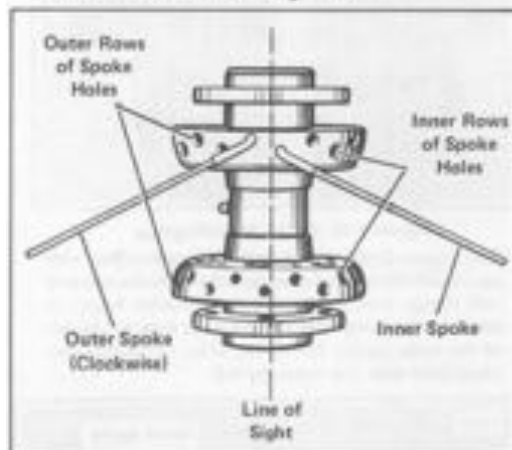
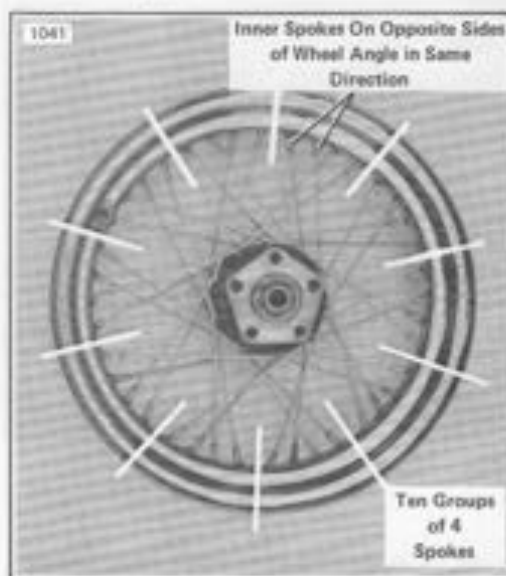

Figure 2-12. Early Style Hub
Figure 2-12B. Early Style Laced Wheel
**Early Style Hub** - See Figure 2-12. Pick any outside spoke hole and sight straight across the hub. The first spoke hole to the right of the centerline is an inner spoke hole. Also, with the wheel assembled, all inner spokes on opposite sides of the wheel angle in the same direction and all outer spokes on opposite sides of the wheel angle in the same direction. See Figure 2-12B.
4. See Figure 2-12 and 2-12A. Insert 10 spokes into the upper flange inner spoke holes. Swing the loose ends clockwise as far as they will go.
5. See Figure 2-12B and 2-12C. The rim is divided into ten groups of spoke holes, 4 holes to a group. In each group, only one hole will be angled toward each upper flange inner spoke. Place the rim over the hub, either side up, and insert the spokes into these holes. Secure each spoke with a nipple screwed on the end about 3 turns, just enough to hold it in place.
6. When all 20 inner spokes are installed, insert a spoke into an outside spoke hole on the same flange side. See Figure 2-12 and 2-12A.